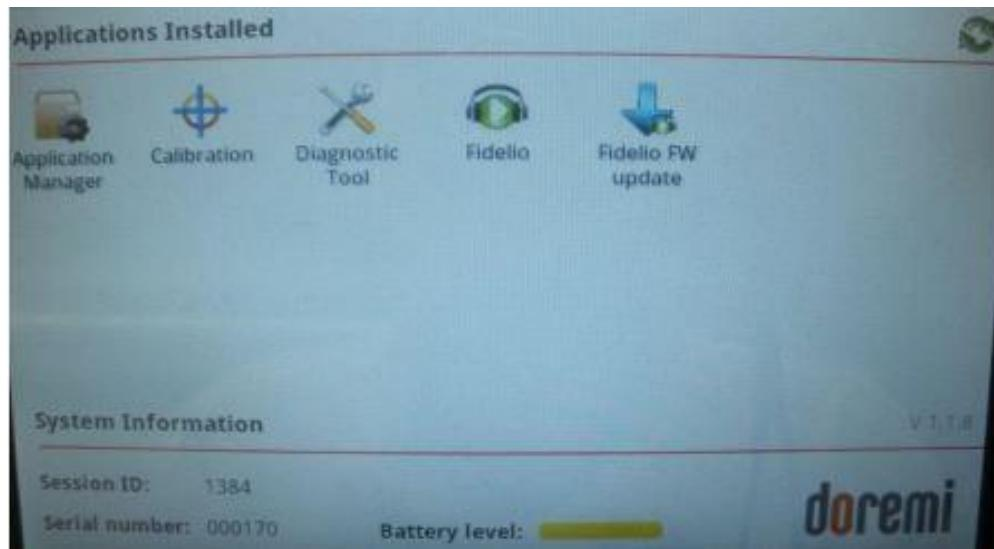

Figure 76: Home Pages
- Once the tablet boots back up, unlock the tablet. The home page will be displayed (Figure 76). The new application, Fidelio FW Update, has been added to the home page.
- Press the silver Home button (Refer to Figure 8 for v1.1.2; Refer to Figure 24 for v2.2.0) to be taken back to the Fidelio home screen (Figure 76).